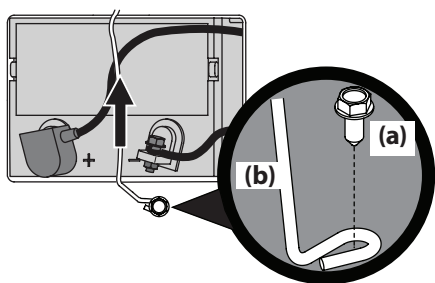

Figure 4-7
1. Remove the hex washer screw (a) securing the battery hold-down bracket (b) to the frame. Then flip the battery hold-down bracket (b) up to free the battery. See Figure 4-7.